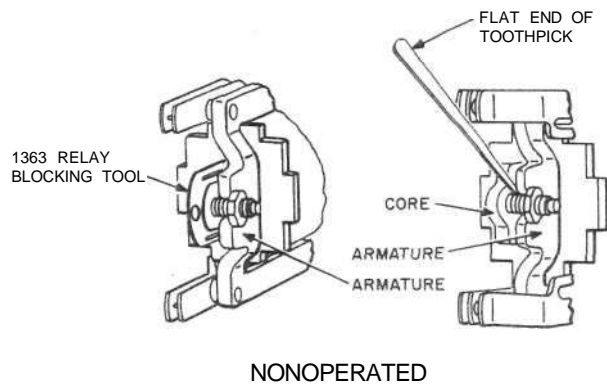
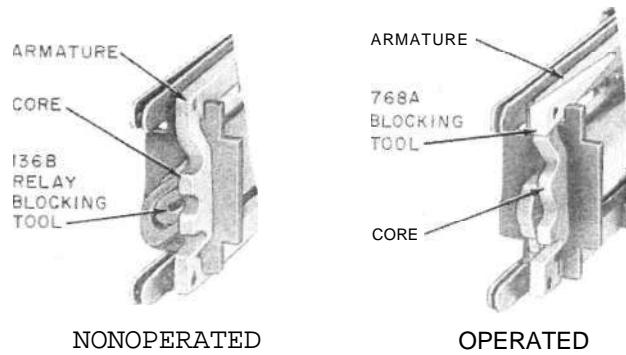

Fig. 1—Blocking Nonoperated A-, AB-, E-, F-, H-, M-, R-, T-, 236-, 266-Type and EA1- to EA13-Type Relays
Fig. 3—Blocking Operated and Nonoperated EA-Type Relays Coded EA25 and Up
**3.01** *A-, AB-, E-, EA-, F-, H-, M-, R-, T-, 236-, and 266-Type, and Similar-Type Relays:* Fig. 1 and 2—Block relays nonoperated by inserting the 136B relay blocking tool between the core and the armature. Block relays operated by inserting the 136B tool between the armature and the armature adjusting nut for all relays except EA-type relays coded EA25 and up. Toothpicks may be used instead of the 136B tool. Block EA-type relays coded EA25 and up operated with the 768A blocking tool as shown in Fig. 3.
4.01 *E-Type Relays:* Fig. 1 and 2—Block the relay as required using the 136B relay blocking tool.
(2) *EA8, EA9, EA31, and EA32 Relays:* Block the relay operated using the 136B or 768A blocking tool as required in accordance with Fig. 1, 2, or 3 of the section, as applicable.